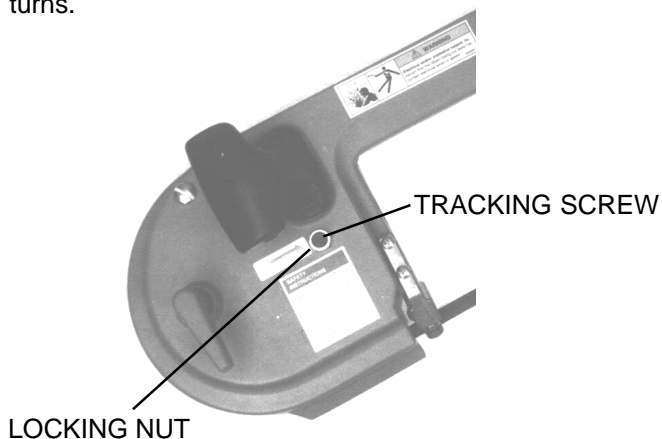

Fig. 4
2. Use a 9/16" wrench to loosen the adjustment locking nut (see Fig. 4), by turning it counterclockwise, one or two turns.